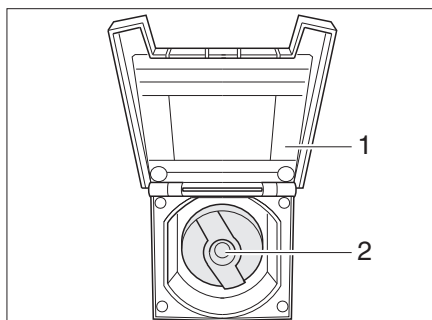

Fig. 152 Cap for the drinking water filler neck
- Open the cover flap (Bild 152,1) of the drinking water filler neck.
- Insert the key into the locking cylinder (Bild 152,2) and turn a quarter turn anticlockwise.
- Close the cover flap (Bild 152,1).
- Open the drinking water filler neck (Bild 152).